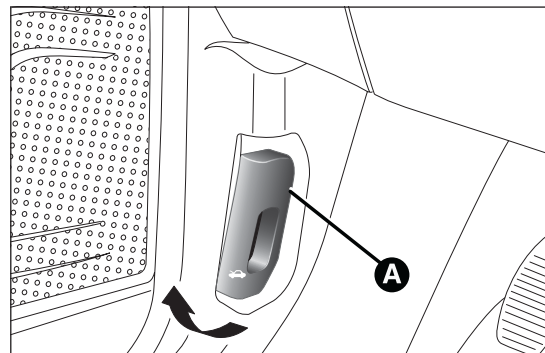

fig. 65
- pull lever A fig. 65 in the direction indicated by the arrow;